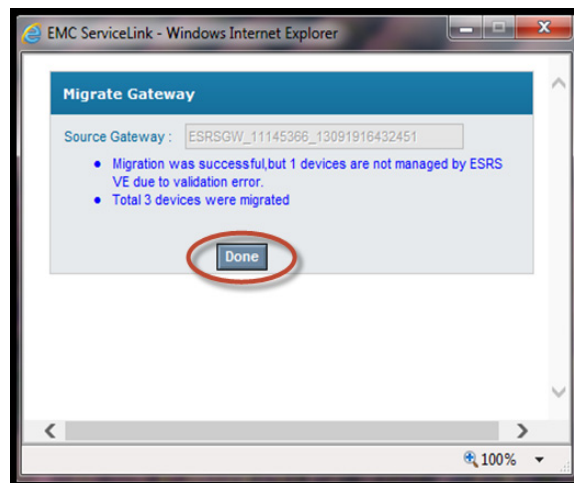

Figure 159 Clicking Done
7. When the process is complete, click **Done** to close the dialog box, as shown in Figure 159 on page 122.